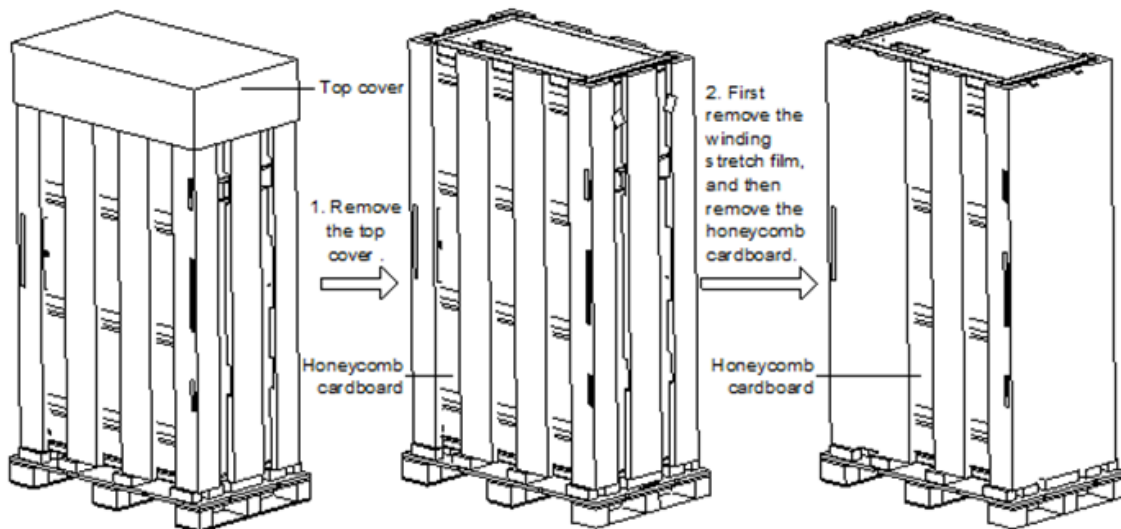

Figure 2-3 Unpacking the outer package
- Initially, remove the top cover and winding stretch film. Next, remove the honeycomb cardboard as depicted in Figure 2-3.